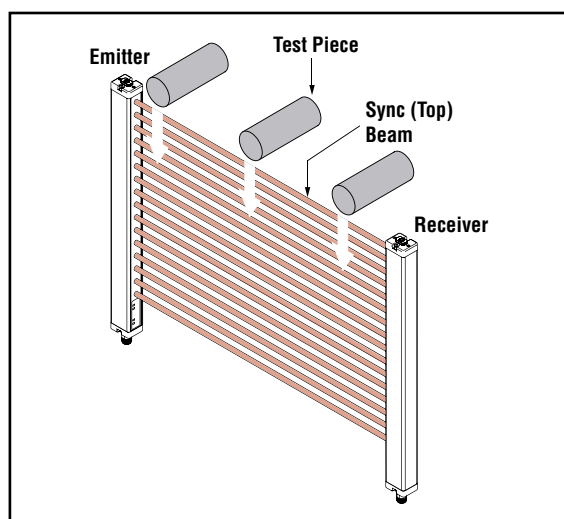

Figure 1. EZ-SCREEN Type 2 trip test
**5b) With the guarded machine at rest, pass the test piece downward through the defined area in three paths:** near the receiver, near the emitter, and midway between them (Figure 1).